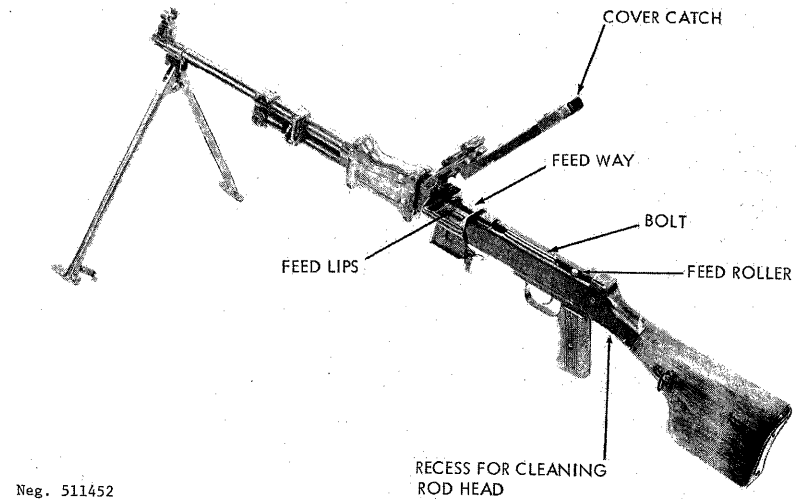

Figure 153. RPD ready for loading.
necessary, open the dust covers by opening and closing the feed cover. Then insert the lead tab of the belt into the feedway from left to right, and give it a vigorous pull to the right to seat the first cartridge in the holding pawl. Pull the operating handle to the rear (unfolding it first, and returning it forward if a modified early or third or later version RPD) until the slide is caught by the sear. An alternative method of loading is to press the cover catch forward and open the cover (fig 153). Pull the operating handle rearward and lay a belt in the feedway with a cartridge in the feed lips. Close the cover.
(1) Clear the gun (para 181f), but do not close the covers. Remove the cleaning rod by prying its head out of its recess (fig 153) and withdrawing it to the rear.